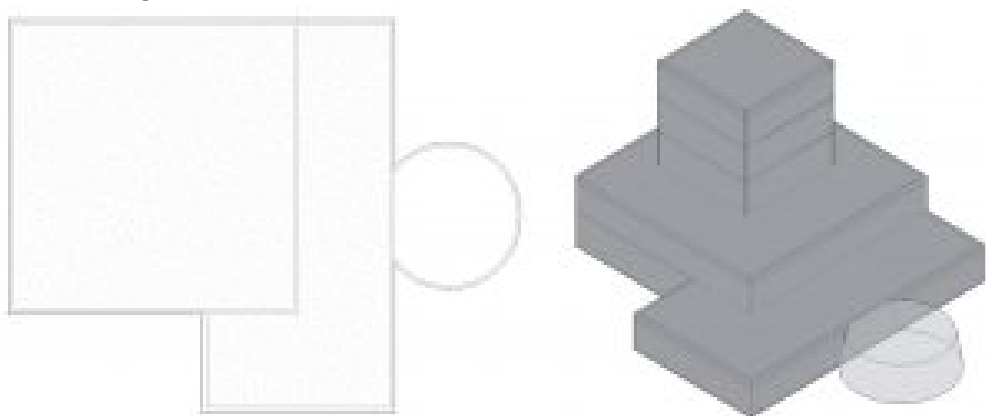

Figure 6.7 Connected masses shown in the Level 1 view and in 3D view
14. Use the Move tool  to connect the Conceptual Mass to the Mass Building as shown in Figure 6.7